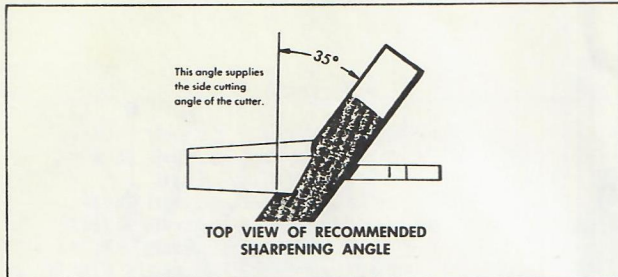

Figure 14
**IMPORTANT:** The chain must be sharpened to the original tooth form for best cutting efficiency. This is easily done if the proper file guide and depth gage is used. Figures 14 and 15 show correct angle and position.